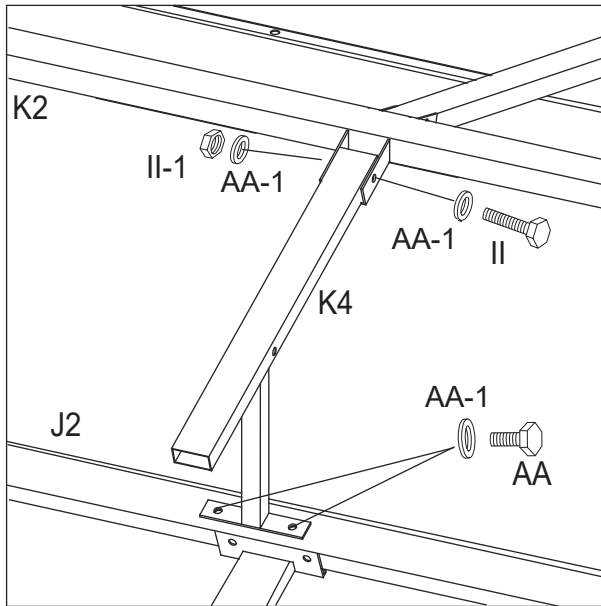

Figure 12-1
12.1 Attach Small Top Center Bar (K4) to Roof Vent Center Support (K2) using Bolts (II/II-1/AA-1). Attach Small Top Center Bar (K4) to Main Roof Center Frame (J2) using Bolts (AA/AA-1). Repeat for opposite side. Tighten all Bolts. See Figure 12-1.